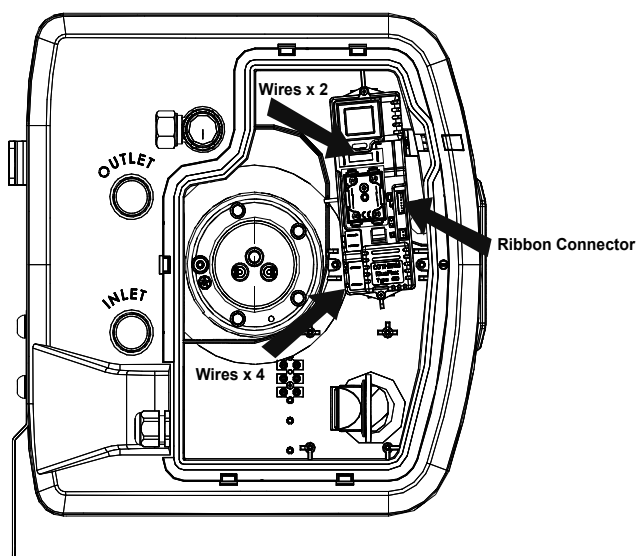

Figure 13: iBD Wiring removal
- ▶ Gently remove the two power wires from the iBD, (see fig 13).
- ▶ Gently remove the four wires from the iBD, (see fig 13).
- ▶ Fit the four wires to the iBD, see fig 13 opposite, ensuring that each wire is correctly positioned, each wire is identified with the connection, (refer to fig 2 page 7, wiring diagram).
- ▶ Fit the two power wires from the iBD, (see fig 13), observing the correct polarity, L (Red) and N (Black).